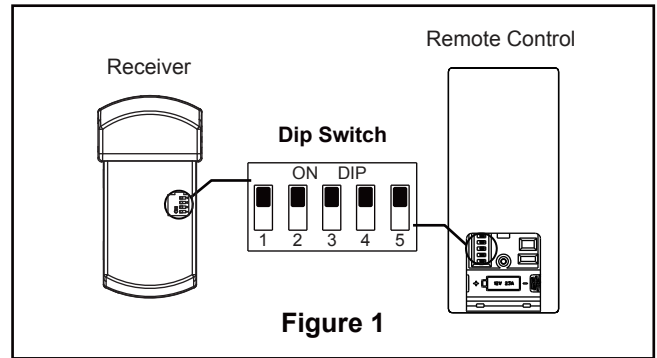

Figure 1
1. To set the code on receiver unit, slide dip switches to the same positions as set on the remote. (Figure 1)
1. Assemble the motor assembly to ceiling plate assembly. Be sure the receiver and all wiring are tucked into the motor housing and are not pinched. Once the motor assembly is flush with your ceiling plate assembly, replace the previously removed hex nuts and securely tighten all four hex nuts. (Figure 1)